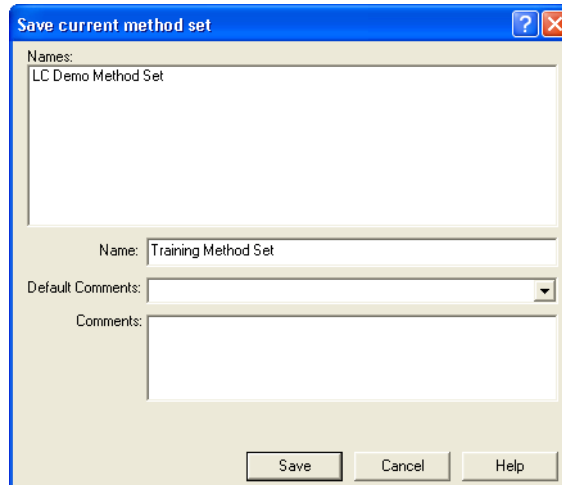

Figure 4-10 Save Current Method Set Dialog Box
5. Select **File > Save As**. The Save current method set dialog box appears (Figure 4-10). Enter the name **Training Method Set**, add any comments describing the method set, then click **Save**. The method set name appears in the status bar.